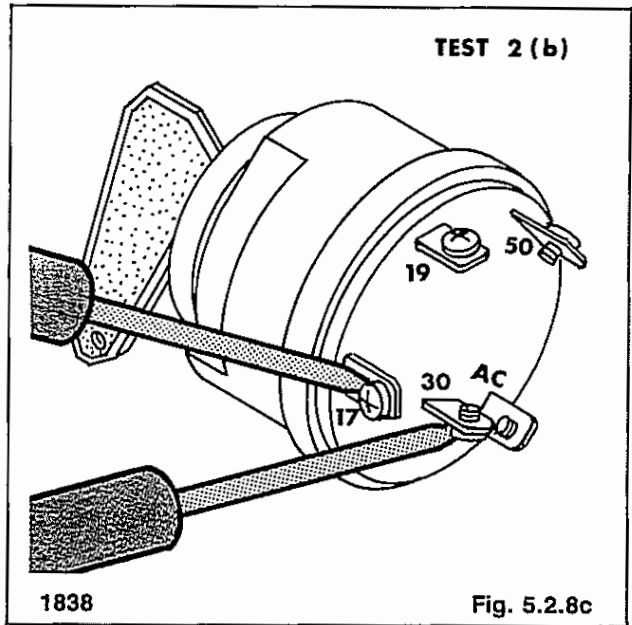

Fig. 5.2.8c
(B) Connect the ohmmeter leads between the terminals marked 30 and 17 on the key switch (Fig. 5.2.8c).